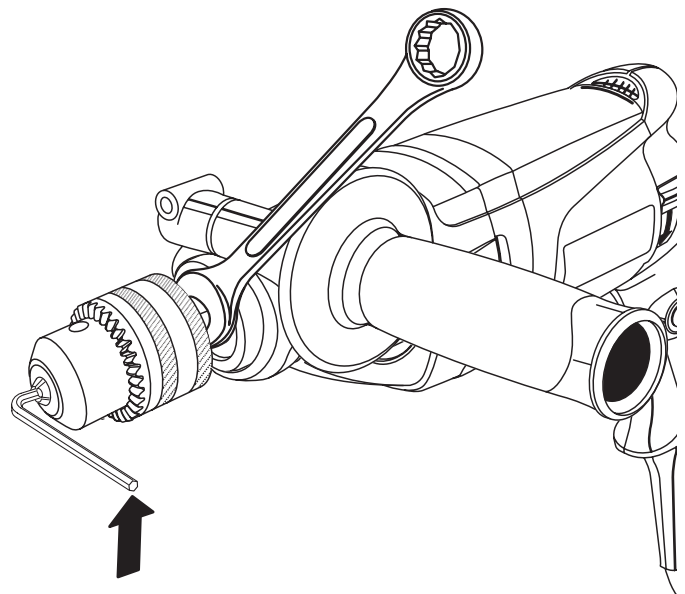

Fig. 10
7. Tap sharply with a mallet in a counterclockwise direction. See Figure 10. This will loosen chuck on the spindle. It can now be unscrewed by hand.